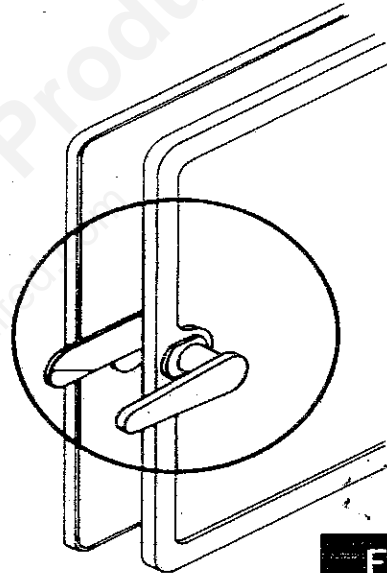

FIG. 27
4. Then to open door, turn the handle counter clockwise to the 9 o'clock position and then continue to pull the door open. (Fig. 27).